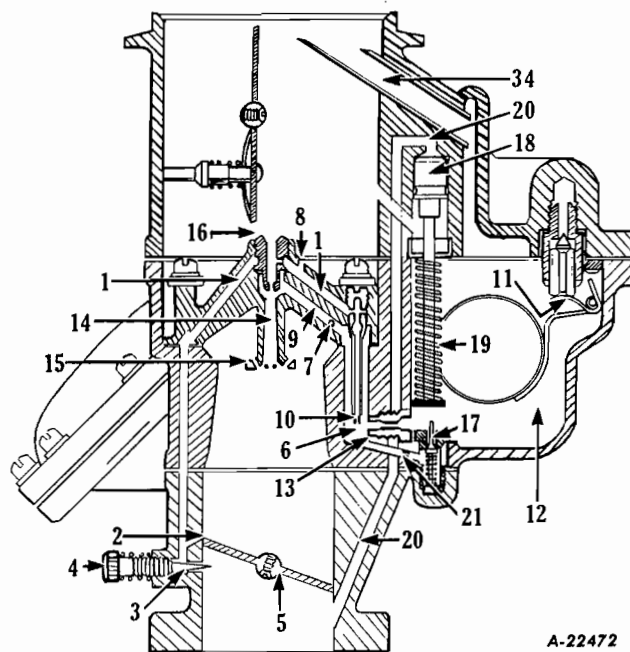
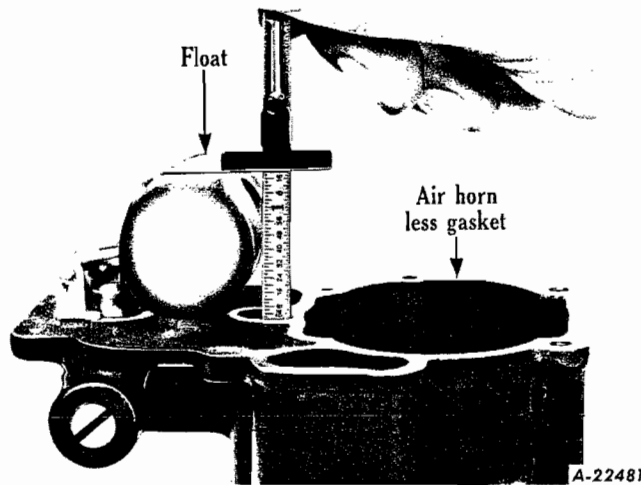

Fig. 2
Fig. 4
The fuel from the carburetor bowl (12) passes through the main metering jet (13) into the idle tube (10) as shown in Fig. 2. Air is introduced into the fuel stream by idle air bleed (8). This fuel and air mixture then travels through the idle passage (1) through the chamber around the bleeder plug (16) and to the continuation of passage (1) then discharges at idle transfer hole (2) and idle discharge hole (3).
As the throttle is opened and the idle system becomes less effective, the main discharge nozzle (15) in Fig. 2 starts to deliver fuel.
The float bowl (12), Fig. 2, is vented to the atmosphere through a balance tube (34). This system, besides correcting float chamber air pressure for atmospheric changes, keeps dirt out of the fuel system and reduces air cleaner clogging effects to a minimum.
The power valve vacuum piston (18) and the spring (19) shown in Fig. 2 are actuated by the vacuum below the throttle plate (5) which communicates with the top of the piston (18) through passage (20).
FLOAT LEVEL - Proper carburetor performance is dependent on maintaining the correct fuel level in the bowl. The float level can be set accurately, when the air horn is off, by gauging the distance between the bottom of the float and the flange surface of the air horn. Holding the air horn upside down, less gasket, and with the float in the closed position, measure the distance from the flange surface of the air horn to what would normally be the bottom side of the float, not the soldered seam (Fig. 4). The correct distance that it should measure is 1-11/32". To correct the float setting, the float lever arm (11), Fig. 2, should be bent up or down to bring the float within the established limits and thus correct the fuel level for best operation. Pushing the float toward the float chamber
If the idle is erratic and not sensitive to adjustment, check the float level in the float bowl. Check the idle tubes (10). They must be tight on seat in nozzle bar casting (15), Fig. 2.
MAIN FUEL SYSTEM - To check for trouble at intermediate speeds, be sure all gaskets are tight. Remove main jets (13) Fig. 2, and check size in accordance with specifications. Clean main jets, main jet passages and main discharge nozzle with compressed air.
HIGH SPEED COMPLAINTS - For high speed complaints, check the power valve (17), Fig. 2, as well as the main jets (13) in accordance with the above instructions. Clean all passages with compressed air. Check the fuel pump pressure to be sure it is sufficient to maintain fuel level in the bowl. Check float travel to insure full opening of the inlet valve.
NOTE: Do not try to change the size of the power valve restriction (21) Fig. 2, or the pump discharge nozzles (26) Fig. 3, as this will cause erratic performance.